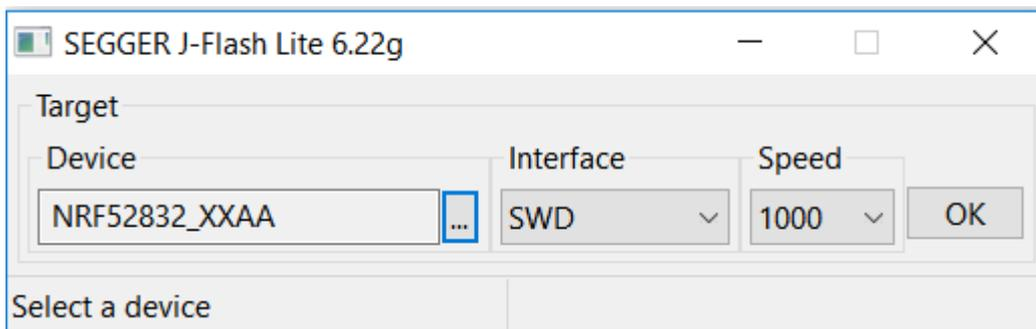

Figure 1 : Segger J-Flash configuration
2. Select the NRF52832\_XXAA target, SWD interface and 1000 kHz clock speed (see Figure 1)